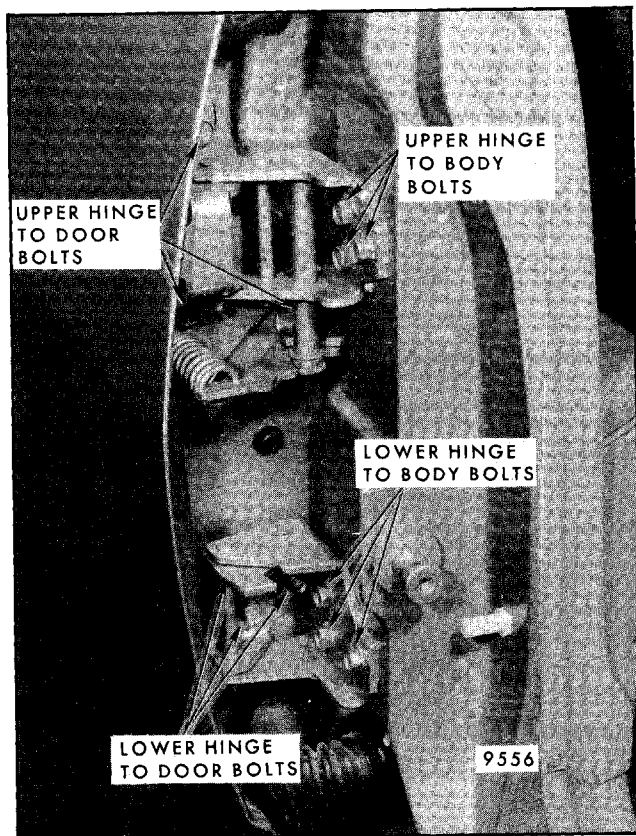

Fig. 5-136-Typical Rear Door Hinge Installation
3. With door properly supported, loosen upper and lower hinge attaching bolts from door or center pillar and remove door from body (Fig. 5-136).